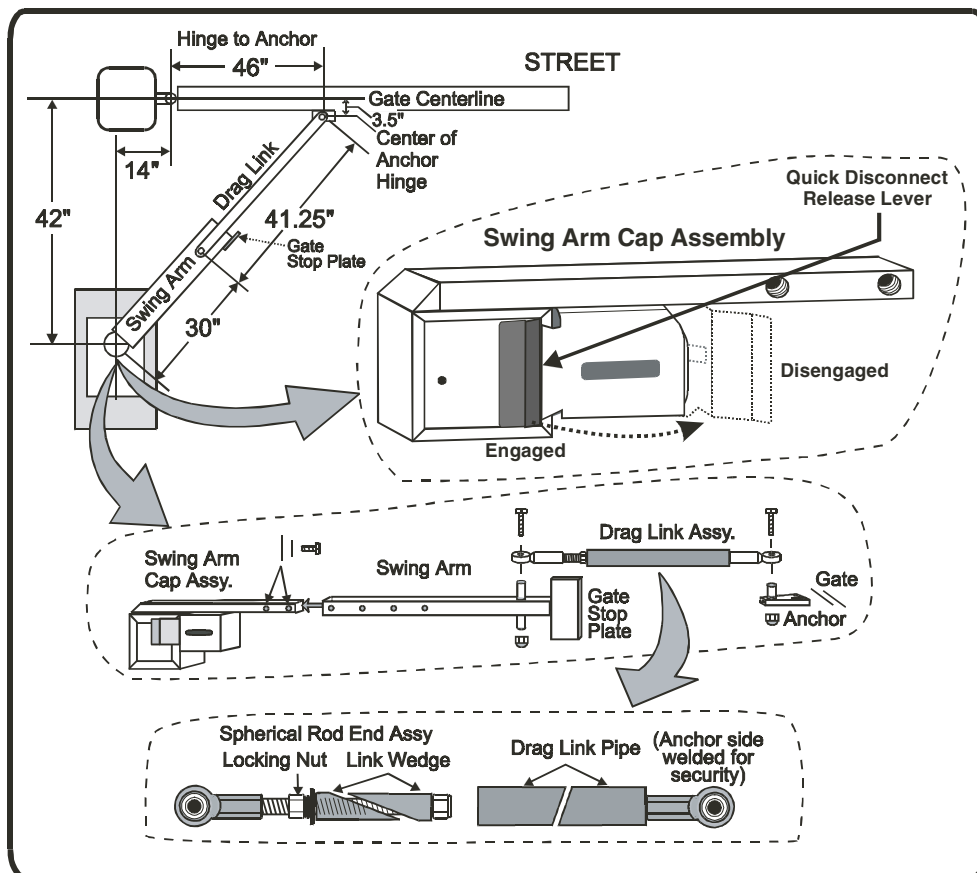

Figure 7. Gate Arm Installation
1. Pull red release lever to disengage and remove quick disconnect arm cap from the output shaft (see Figure 7).
2. Using manual controls, move the swing arm cap assembly until it points roughly to the anchor. See Figure 7.